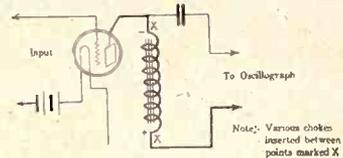

FIG. 2 THE AUDIO AMPLIFIER
**FIG. 1,** take fairly stiff piece of cardboard, mark off eight lines as shown. **Fig. 2,** take this marked strip and with the edge of the ruler bend the cardboard so as to make an octagon-shaped tube. **Fig. 3,** this tube so formed is shown in this photo, being held together with adhesive tape. Place the tape on the inside of the cardboard, using two strips about 4" long. **Fig. 4,** before the actual winding is started, cut two pieces of the tape, and fix them under the wire so that the sticky side will be face up. The wire is then wound right over this. **FIG. 5** shows the completed winding, with the two pieces of the tape folded over, thereby holding the coil in shape.